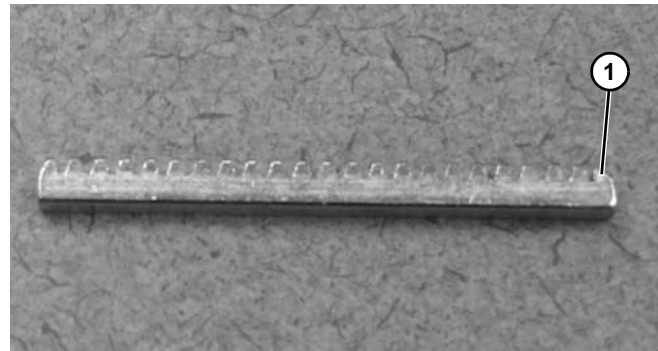

Figure 150
Make sure the bent end (**Figure 150, item 1**) of the gear rack is **NOT** assembled into the conveyor frame.